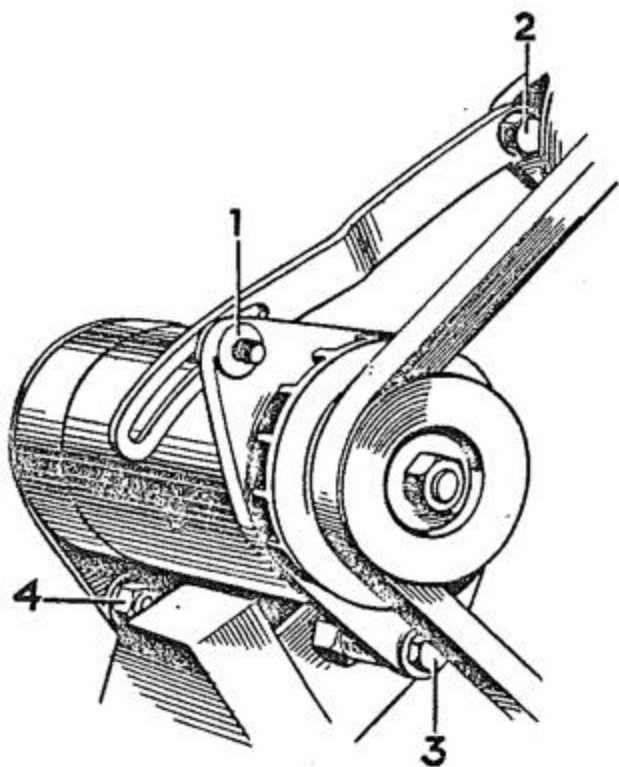

Fig. 3. Points for fan belt adjustment
3. Remove fan belt after slackening this by adjustment of dynamo's position. To adjust position of dynamo and hence of the belt tension, slacken off at points "1", "2", "3" and "4" shown in Fig. 3. The correct belt tension should allow $\frac{3}{4}$ "—1" sag in the vertical link with moderate hand pressure. Over-tightening of belt will damage the dynamo bearings (see also page 8).